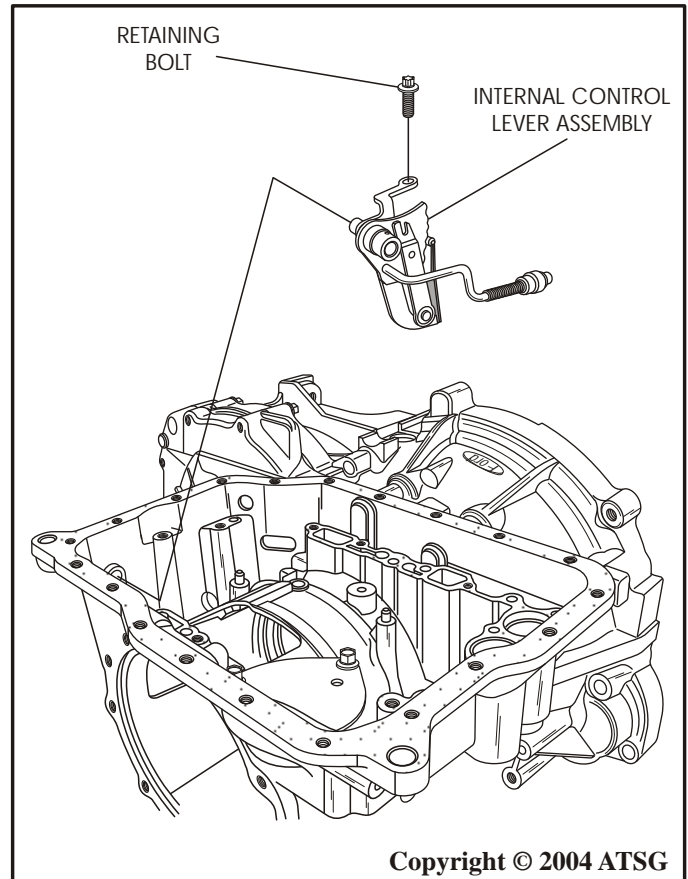

Figure 44
41. Remove the internal control lever retaining bolt, as shown in Figure 44, and remove the internal control lever assembly.